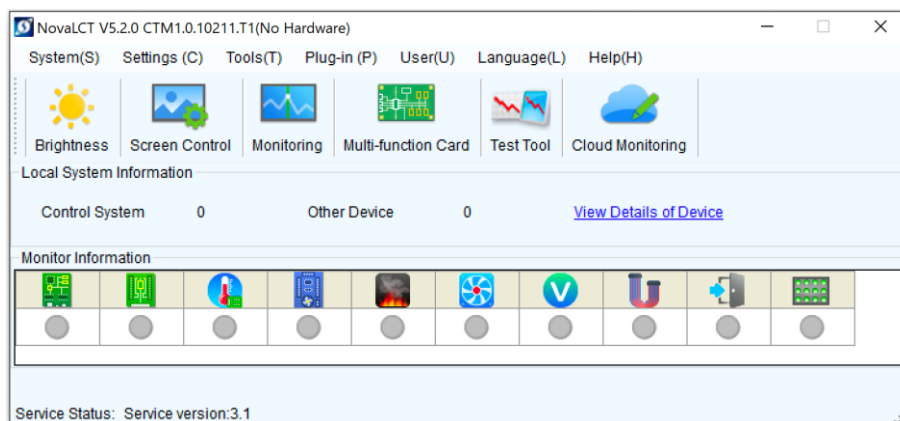

Figure 91: Starting the Monitoring function
Step 1) Click the **Monitoring** button to open the monitoring interface (see Figure 91).